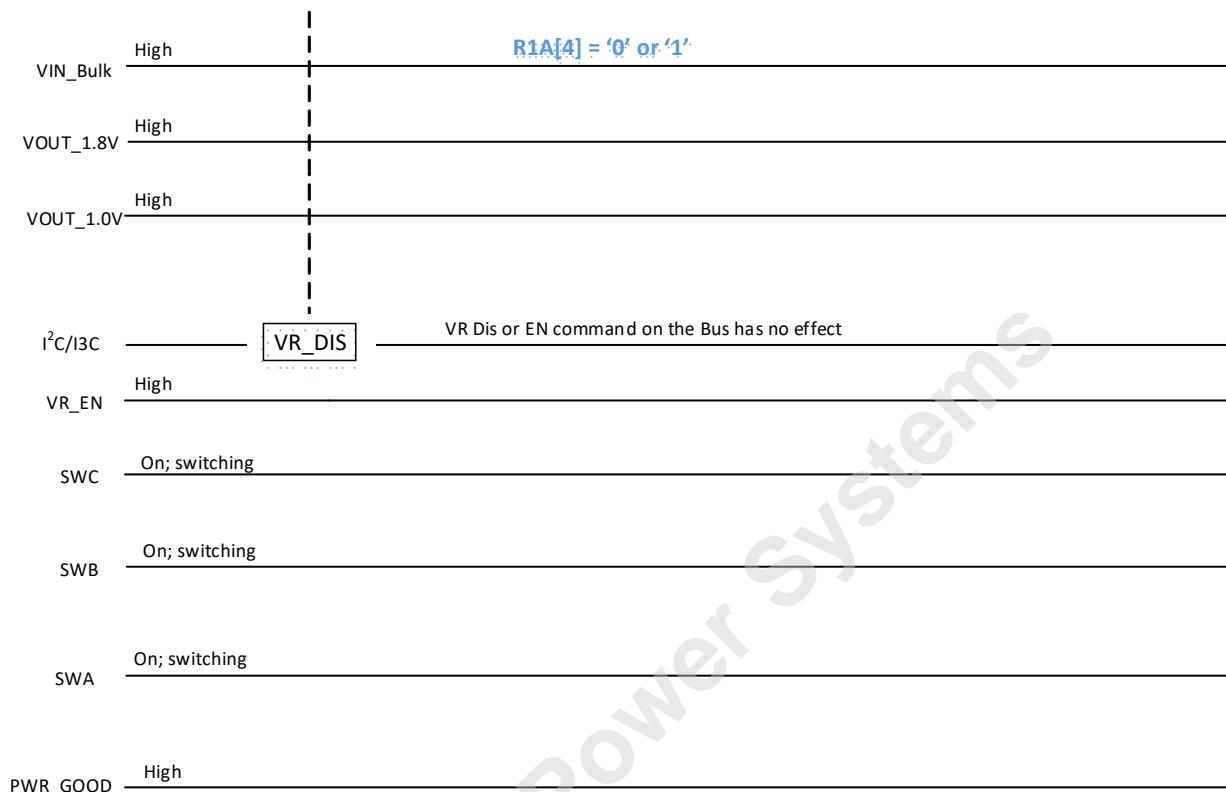

Figure 31 — VR\_DIS or VR\_EN CMD on Bus; R1A[4]=x; Secure Mode; PWR\_GOOD Signal
- a. Note that VR Disable or Enable command on a I2C/I3C Basic Bus (i.e., Table 138, “Register 0x32” [7] = ‘0’ or ‘1’) has no effect on the PMIC. Also, configuring one or more bits in Table 135, “Register 0x2F” [6:4:3] to ‘0’ has no effect on the PMIC. See Figure 31.
- a. Note that VR Disable or Enable command on a I2C/I3C Basic Bus (i.e., Table 138, “Register 0x32” [7] = ‘0’ or ‘1’) has no effect on the PMIC. Also, configuring one or more bits in Table 135, “Register 0x2F” [6,4:3] to ‘0’ has no effect on the PMIC. See Figure 31.